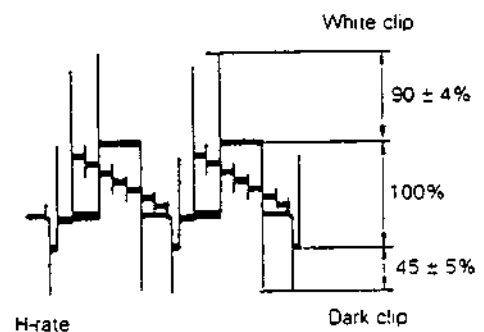

Fig. 2-5-3
- 3) If necessary, replace R64 with the variable chip resistor 4822 101 10894 and adjust it 90+/-4% white clip and 45+/-5% dark clip, as in Fig.2-5-3.